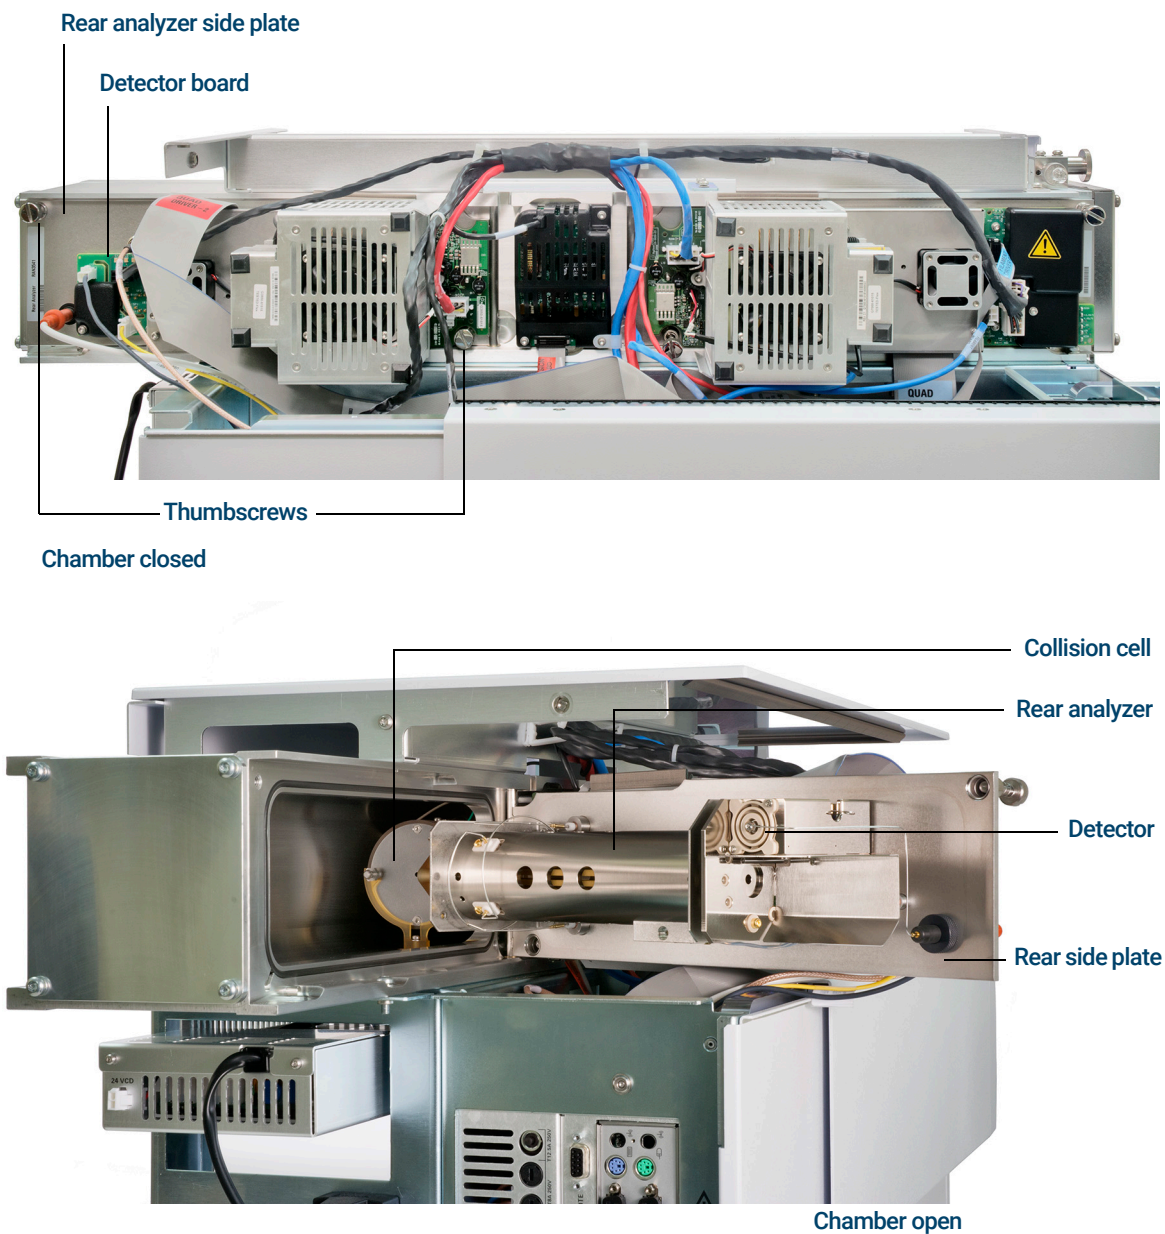

Figure 65. The rear analyzer chamber
- 4 Loosen the rear analyzer side plate thumbscrews, if they are fastened. (See Figure 65 on page 200.)